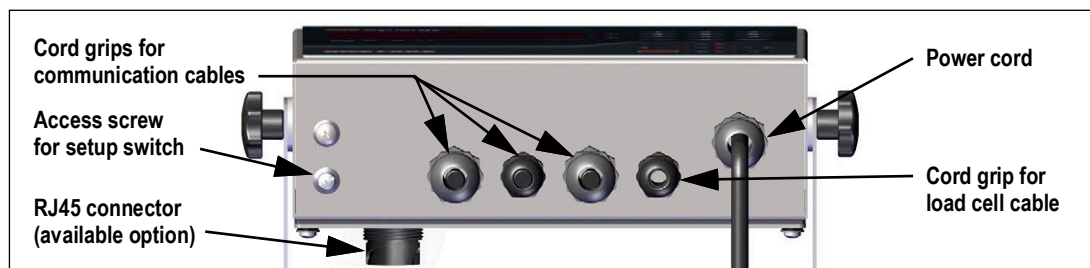

Figure 2-5. Recommended Cord Grip Assignments
The 680 provides five cord grips at the bottom of the enclosure for cabling into the indicator. One of the cord grips is used for the power supply and the other four are used to accommodate the load cell cable and the serial, digital inputs and outputs, Ethernet, micro USB or the optional analog output communications cables. A version of the 680 with an external RJ45 connector and cap is available. Cable plugs are included in the parts kit and must be installed in open cord grips to prevent moisture from entering the enclosure. Use the attached cap to seal the optional RJ45 connector when not in use. See the following sections to install cables as required for the application. The recommended cable strip length is 0.25" (7 mm) for all 680 connectors. See Figure 2-5 for the recommended assignments for the 680 cord grips.
1. Insert a 3-wire power cable (not included) into the enclosure through the power cable cord grip (Figure 2-5 on page 11).